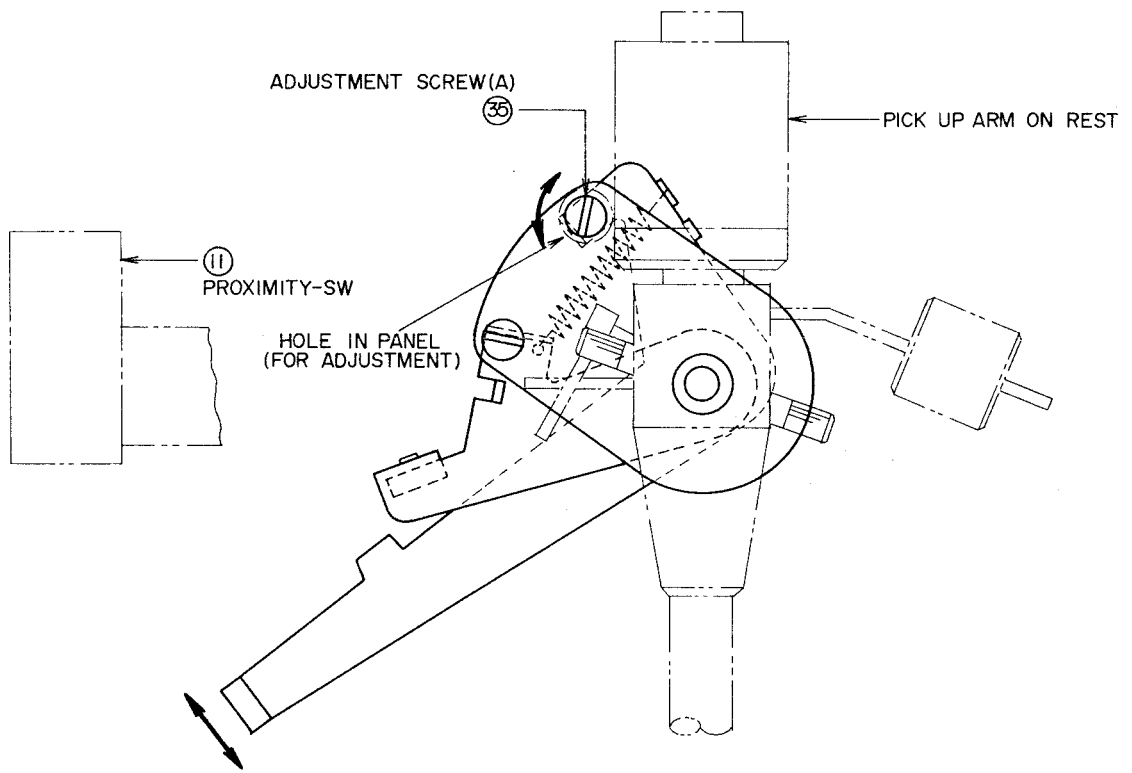

Fig. 12
Stationary the pick-up arm on arm rest and remove the rubber plug on panel toward the rear part of the pick up arm, when adjustment screw (A) (Fig. 12) is turned to the right through the hole in panel with a (-) screw driver, lead out will be sooner and when turned to the left, lead out will be delayed.